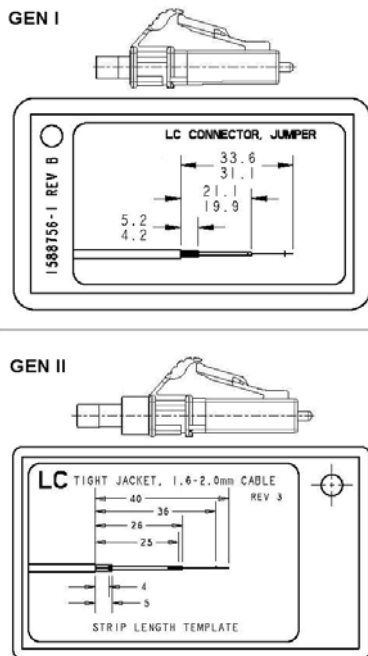

Figure 3
2. Refer to Figure 3 to determine if you're using the shorter GEN I or the longer GEN II Tight-Jacketed LC Connector.
3. Using the combination strip tool and aramid shears, strip the cable according to the dimensions shown in Figure 3.